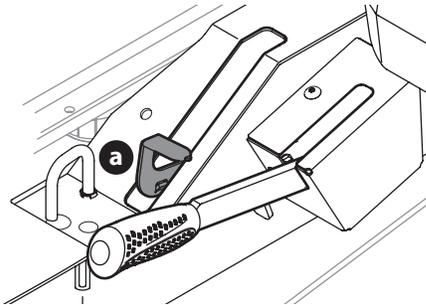

Figure 34
1. Engage the transmission bypass valves by pulling the bypass lever (a) upward and all the way back (Figure 34).
2. To release the bypass lever (a), push the lever forward (Figure 34).